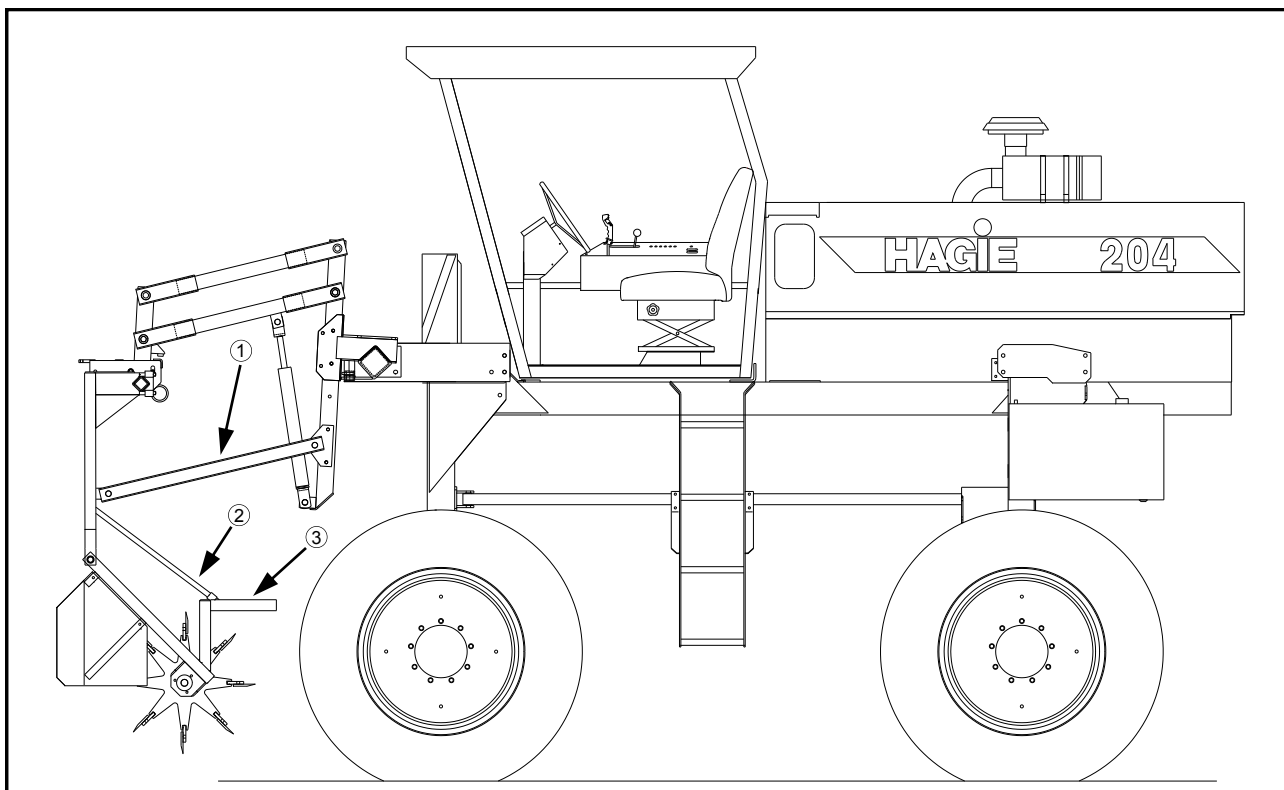

FIG 4.35
4. Attach the lower stabilizer arm to the hoist column and male corn chopper (fig. 4.35, item 1).
5. Adjust the support rod so there is approximately two inches of travel on each end (fig. 4.35, item 2).
6. Add weights (fig. 4.35, item 3).